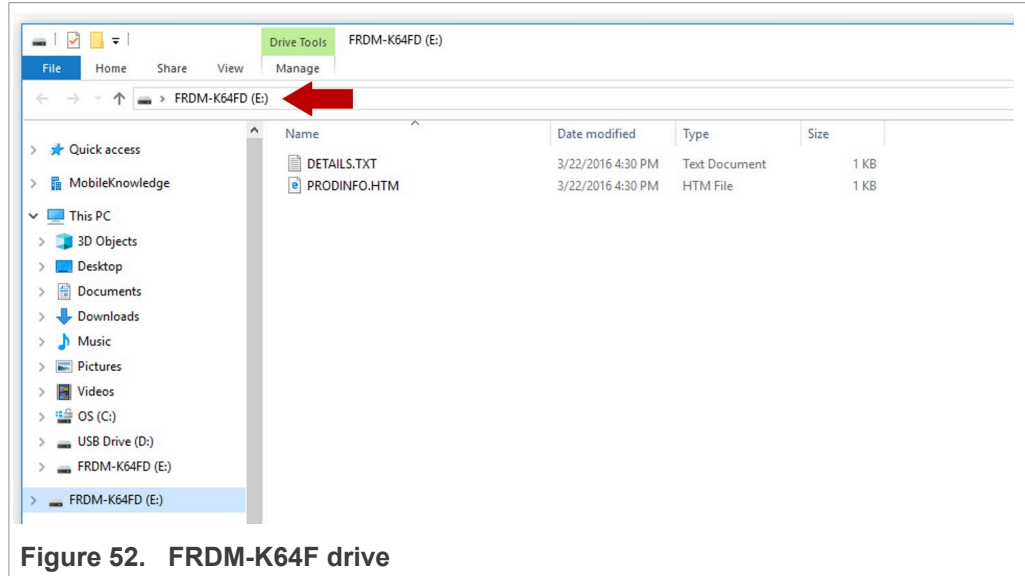

Figure 52. FRDM-K64F drive
- 2. When you plug the board, your laptop should recognize the board as an external drive as shown in Figure 52: